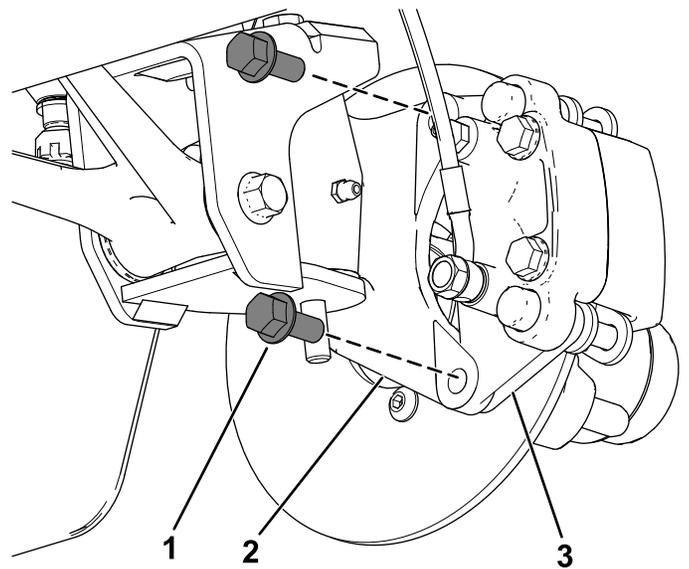
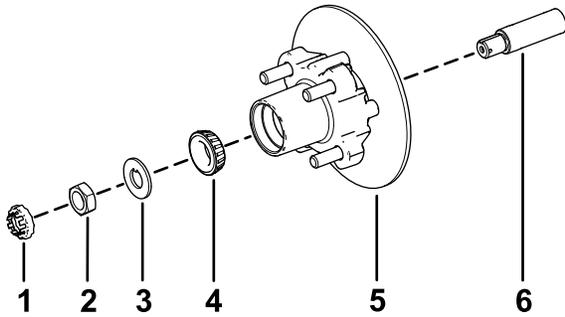

Figure 38
Figure 42
3. Remove the flange-head bolts (3/8 x 3/4 inch) that secure the bracket for the brake assembly to the spindle and separate the brake from the spindle (Figure 38).
1. Apply a light coat of the specified grease to the spindle (Figure 42).
2. Assemble the hub and rotor onto the spindle with the rotor inboard (Figure 42).
3. Assemble the outboard bearing onto the spindle and seat the bearing to the outboard race (Figure 42).
4. Assemble the tab washer onto the spindle (Figure 42).
5. Thread the spindle nut onto the spindle and tighten the nut to 15 N·m (11 ft-lb), while rotating the hub to seat the bearing (Figure 42).
2. Align the brake pads to either side of the rotor (Figure 38) and the holes in the caliper bracket with the holes in the brake mount of the spindle frame (Figure 42).
3. Secure the caliper bracket to the spindle frame (Figure 38) using the 2 flange-head bolts (3/8 x 3/4 inch).